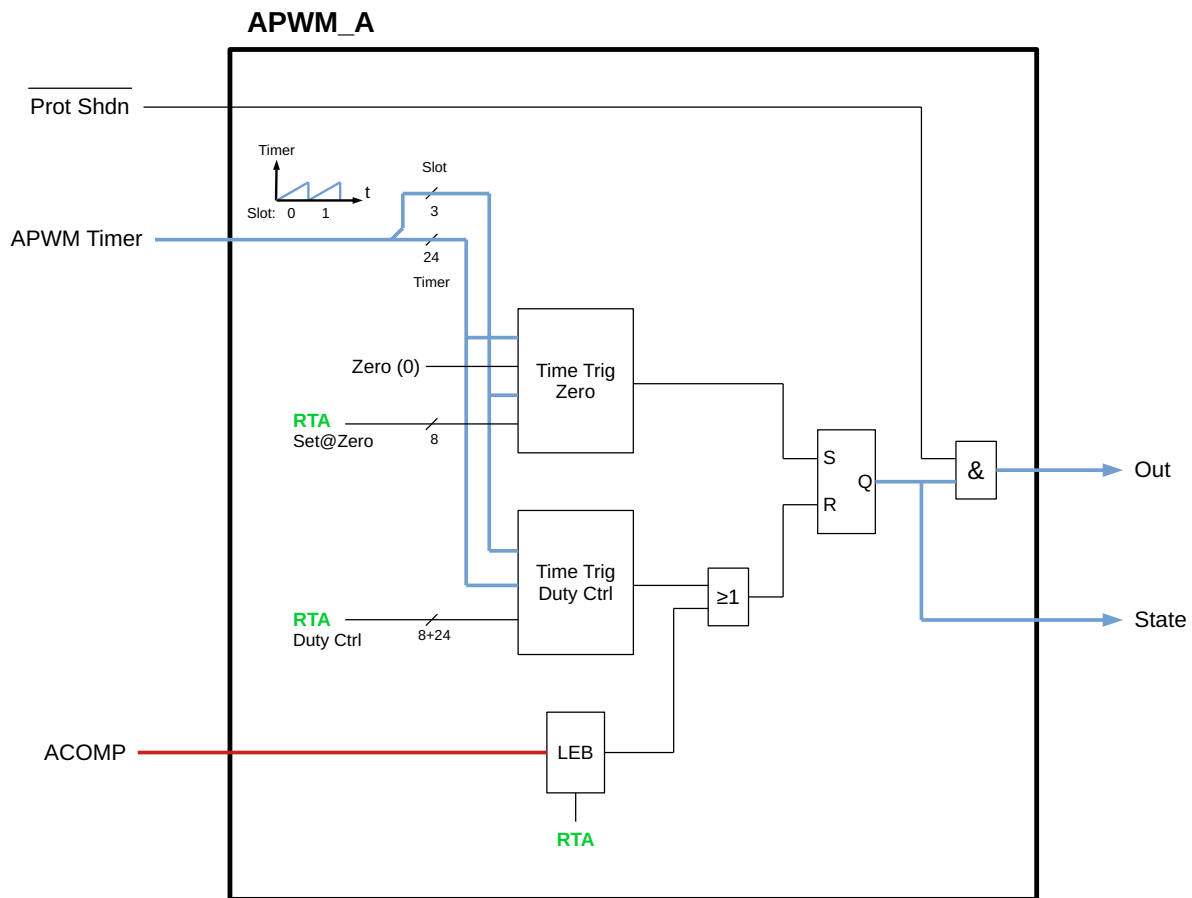

Figure 126. Functional diagram of APWM_A
The APWM_A block is a simplified version of APWM_AB, and has only one PWM output, see figure 126. It can be used in application areas such as low-power DC/DC converters, and current or voltage sources at medium-power signal level, in general for maximum output power in the range 0.01 to 10 W. For low-power DC/DC converters, the APWM_A and its ACOMP run in peak-voltage mode without RTA, ADC and DAC. It gives an added GR716B consumption per controller of about 1mA from 1.8V supply, and about 0.5mA from 3.3V supply, which should be negligible compared to any other losses in the converter. Instead of alternative solutions such as non-SET-hard radiation-tolerant LDO ICs, these SET-hard APWM_A based converters can provide robust solutions for low-power DC/DC converters. An example of application area is to generate the auxiliary supply voltages to FPGAs, where the need of supply current is low.
A feature for APWM_A, together with its APWM Timer, is that they can be configured to work in up to 8 time slots, see the 3bit Slot count in figure 126. APWM Timer Slot configuration equal to 7 gives Slot count from 0 up to 7 and restart from 0 again. Configuration equal to 1 gives Slot count from 0 to 1 and restart from 0. Configuration equal to 0 gives Slot count equal to 0 continuously.
- 12 Configuration parity error status (P) - This parity check covers the 5 configuration registers. Becomes '1' when a configuration parity error is detected.
- 8 Out (O) - value of the signal Out in figure 126
- 7 ACOMP Fast (AF) - value of the input Acomp Fast in figure 126
- 6 ACOMP Set Hard (ASH) - value of the input Acomp Set Hard in figure 126
- 5 Reset (R) - value of the signal input R to the SR flip flop in figure 126
- 4 Set (S) - value of the signal input S to the SR flip flop in figure 126
- 3 LEB to ACOMP (LEBAC) - value of the LEB to ACOMP signal output of the LEB block in figure 126
- 1 Protection Shutdown (PS) - value of signal "Prot Shdn" in figure 126
- 0 State (S) - value of signal "State" in figure 126